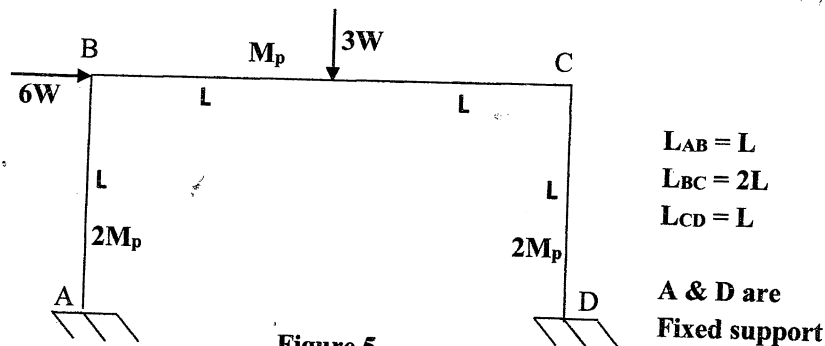

Figure 5
- Q5) A non-uniform member frame is shown in figure 5. The columns have a full plastic moment value of $2M_p$ and beam has M_p . Determine the value of W in the terms of M_p and L at which there is plastic collapse of the frame. Clearly draw the collapse mechanism and plastic hinge details for each analysis case.